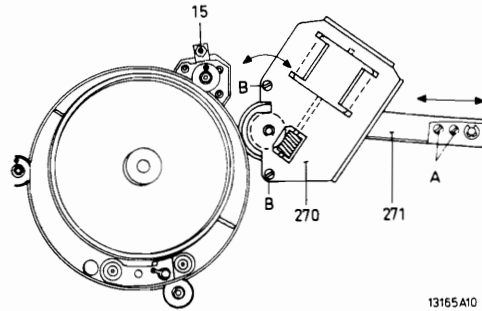

Fig. III-6
The rotating plane of lower drum 184 is in parallel with the plane on which the cassette sits. This has been effected by mounting rings in varying thicknesses underneath the drum guide rollers (marked ● in Fig. III-6). When demounting the guide rollers or the lower drum, it is advisable to mark the rollers and the appropriate rings, as otherwise, on remounting, the parallel adjustment has to be carried out again.
- Loosen screws A of rack 271 a few turns (see Fig. III-6) and push the rack entirely to the right.
- Loosen screws A (Fig. III-6) of rack 271 a few turns and push the rack to the right as far as possible.
2.2.8. Check that there is a play of $0,5 - 0,2$ mm between chassis and adjusting screw 15 (Fig. III-6). If necessary, screw 15 has to be readjusted.